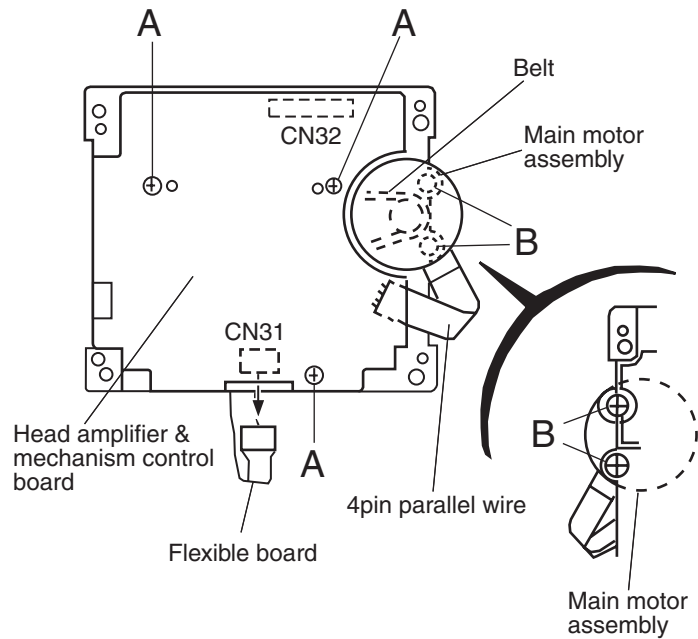

Fig. 4
■ Removing the head amplifier & mechanism control board (See Fig. 4)
■ Removing the main motor assembly (See Fig.4 ~ 6)
1. Remove the two screws **B** retaining the main motor assembly (See Fig. 4 and 4a).